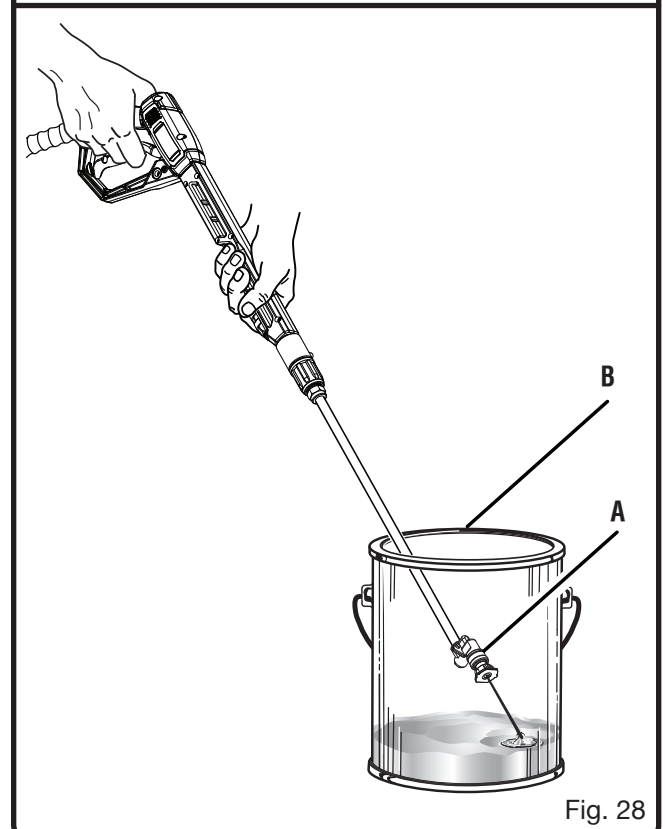

Fig. 28
- Squeeze the trigger (have the nozzle (A) pointed into a plastic drum (B) or equivalent for safety!) and hold for 15 seconds. Release. Record the "Bypass Pressure" on the high pressure gage. See Figure 28.